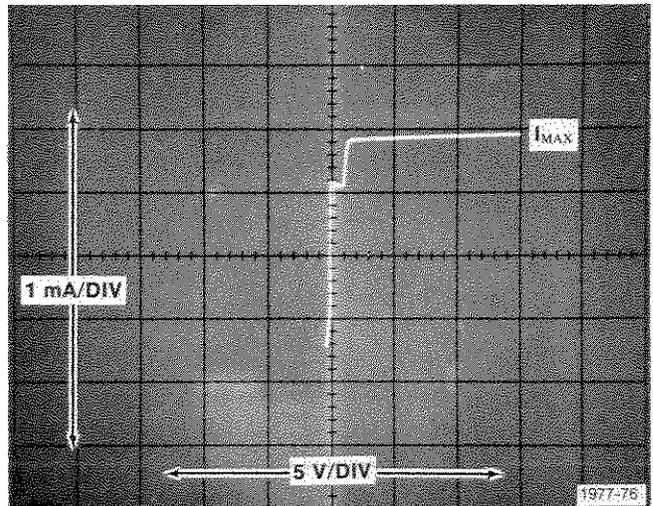

Fig. G-13. Check supply current.
- b. Press the 577 Erase pushbutton. The display that returns should resemble that of Fig. G-13.